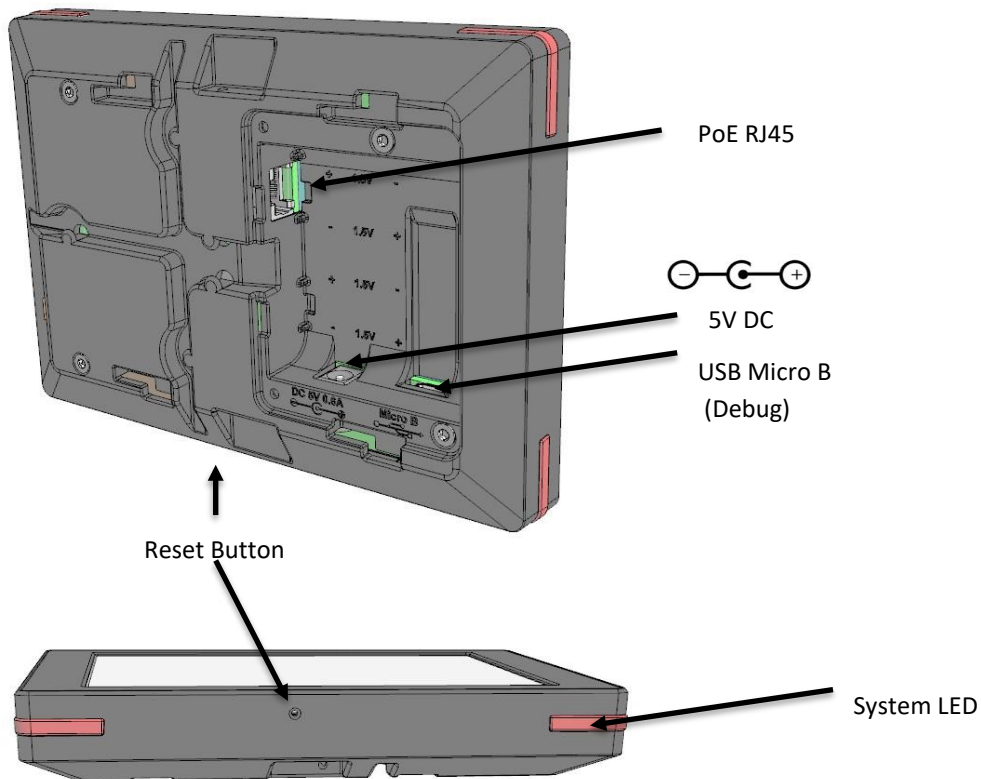

Figure 1-2: The Tablet (external) interface layout.
Figure 1-2 and Figure 1-3 illustrates the customer accessible interfaces of the Tablet. All models share the same layout; however, some functions are not available in some models. The externally powered model shown in Figure 1-2 has RGB LEDs on the corners while the battery powered version shown in Figure 1-3 cannot use the LEDs.
- Plug connected from one side to computer through USB cable to Tablet USB Micro B and press Reset Button (see Figure 1-2).
- The reset switch of the Tablet is accessible through a pin hole in the bottom side of the Tablet as shown in Figure 1-2.
It is allowed to configurate Tablet graphical user interface, styles, text constants, images, fonts, uplinks and downlinks, firmware for touch controller. Most of those configurations are done by configuration files in YAML format. All configuration and image, font or touch controller firmware files should be upload on Tablet before startup (see section 2.1 for details). It is required to reboot Tablet with Reset Button (see Figure 1-2) after new files uploading.